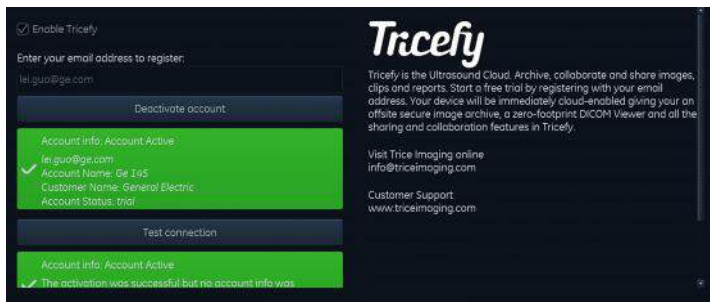

Figure 10-74. The Tricefy Screen
3. Select the **Connectivity** category and the **Tricefy** subgroup. The *Tricefy* screen is displayed (see Figure 10-74).
6. After the account is successfully registered, press the **Test Connection** button. The account information is displayed, indicating the account name, customer name and account status (see Figure 10-74).